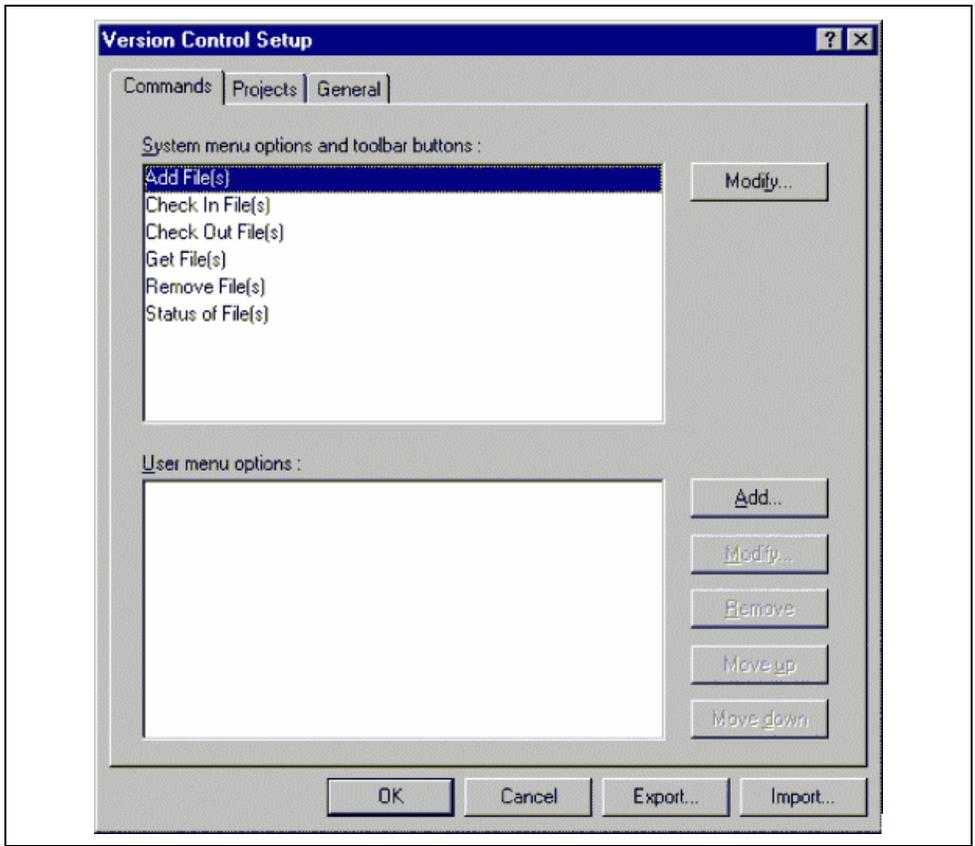
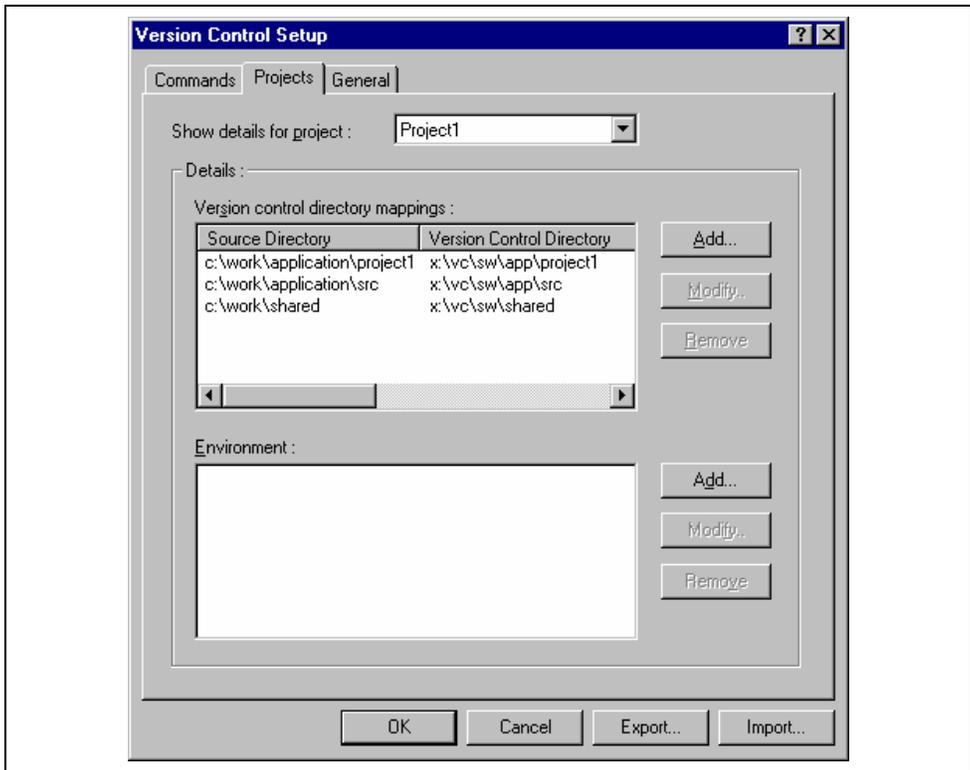

Figure 8.1: Version Control Setup Dialog Commands Tab
Figure 8.7: Version Control Setup Dialog Projects Tab
The custom version control support allows you the most flexibility in specifying how a version control system is to be used. To configure it, select **[Version Control->Configure...]**. The “Version Control Setup” dialog will be displayed (figure 8.1).
1. Select **[Version Control->Configure...]**. The dialog shown in figure 8.1 will be displayed.
1. Select [**V**ersion **C**ontrol->**C**onfigure...]. The dialog shown in figure 8.1 will be displayed.
1. Select [**Version Control->Configure...**]. The dialog shown in figure 8.1 will be displayed.
However, when executed, this command can only ever get the file MAIN.C. To resolve this problem, HEW uses a system of placeholders and directory mappings. The latter tell the HEW which "working" directories (i.e. where source files are being worked on) map to which "controlled" directories (i.e. where the source files are stored in the version control system). Mappings between these two directory systems can be specified via the "Projects" tab of the "Version Control Setup" dialog (figure 8.7).
1. Select [**V**ersion **C**ontrol->**C**onfigure...]. The dialog shown in figure 8.1 will be displayed. Select the “Projects” tab, and the dialog shown in figure 8.7 will be displayed.
1. Select [**Version Control->Configure...**]. The dialog shown in figure 8.1 will be displayed. Select the “Projects” tab, the dialog shown in figure 8.7 will be displayed.
Select the “Projects” tab of the “Version Control Setup” dialog to view the current settings (figure 8.7).